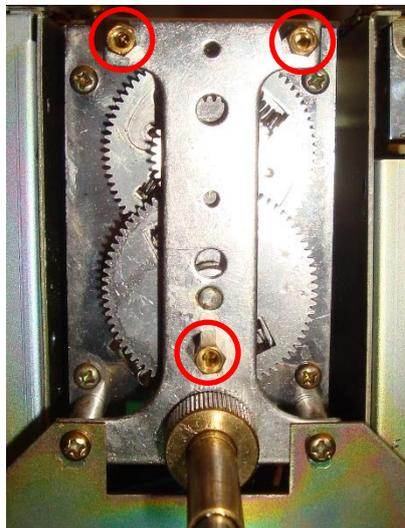

Figure 13
- Screw three M3x12 spacer bolts into the corresponding threaded holes on the front of the VFO gearbox as shown in Figure 13.